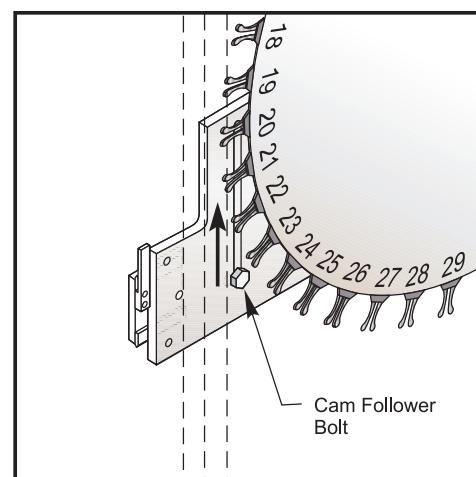

Figure 3.8-8.
23. The next step requires the tool changer carousel to be manually shuttled into the machine enclosure. To shuttle the carousel out, its shuttle arm must be fully rotated. First, reach in through the tool changer's window, push up on the cam follower bolt (as shown in Figure 3.8-8) and then move the carousel to its fully extended position in the enclosure. Verify that it is fully extended by inspecting the location of the cam follower bolt. The cam follower bolt should bottom out at the end of the guide slot.